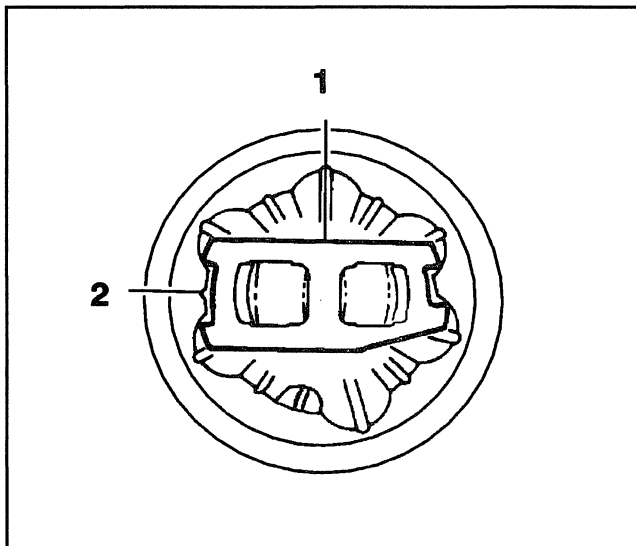

Figure 60—Separating Outer Race and Cage
4. Position the cage and the inner race 90 degrees to the centerline of the outer race and align the (1) cage windows with the (2) lands of the outer race (Figure 60).
6. Rotate the inner race 90 degrees to the center line of the cage with the lands of the inner race aligned with the windows of the cage (Figure 60).
- B. Align the (1) cage windows with the (2) lands. Pivot the cage into position (Figure 60).